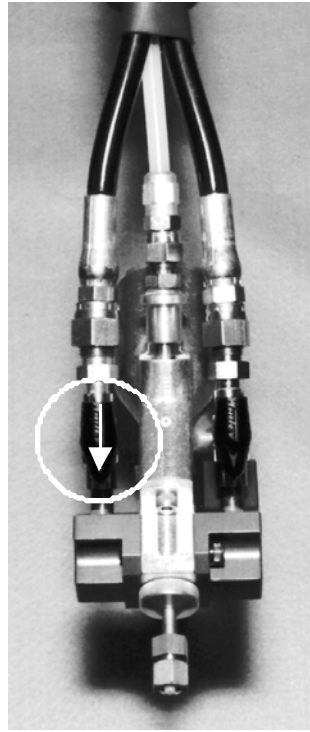

Fig. 2
3. Place separate clean containers under each individual Side Block. Open manual Material Valves (black arrow forward, see Fig. 2 & 3) on each Side Block to allow trapped air to escape the Hose and material to flow into the containers until all air is purged from the material system. (see Fig. 1)
14. Turn Purge Air and Material Valves ON at Gun. (see Fig. 2 & 3)